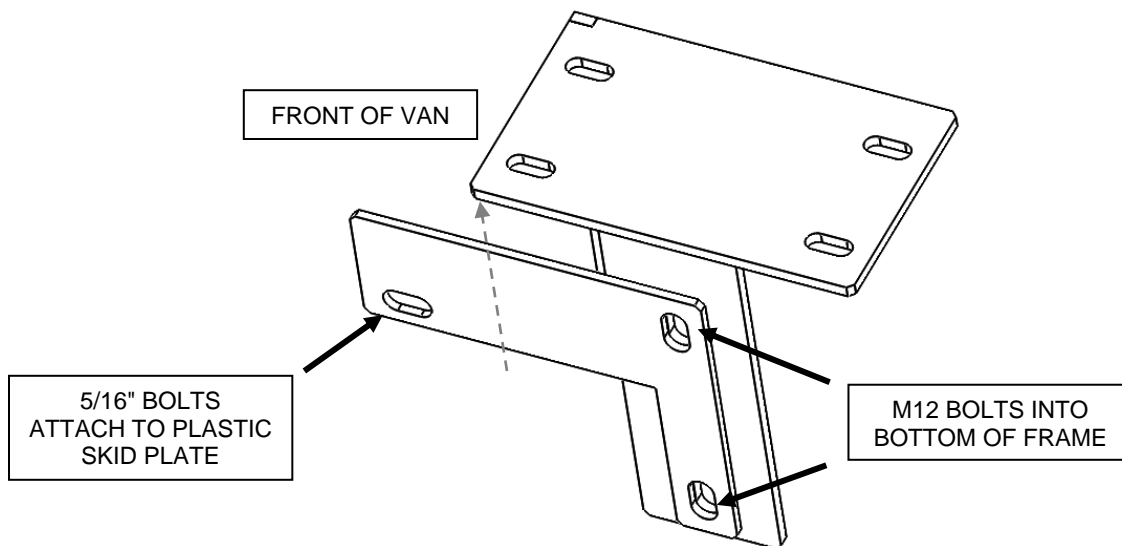

Figure 10. Lower cover brackets installed with mounting brackets.
12. Before threading in the lower bolts into the bottom of the frame, line up the lower cover bracket (L-shaped) as shown in **Figure 10**. This will tie the frame into the existing plastic skid plate underneath your van.